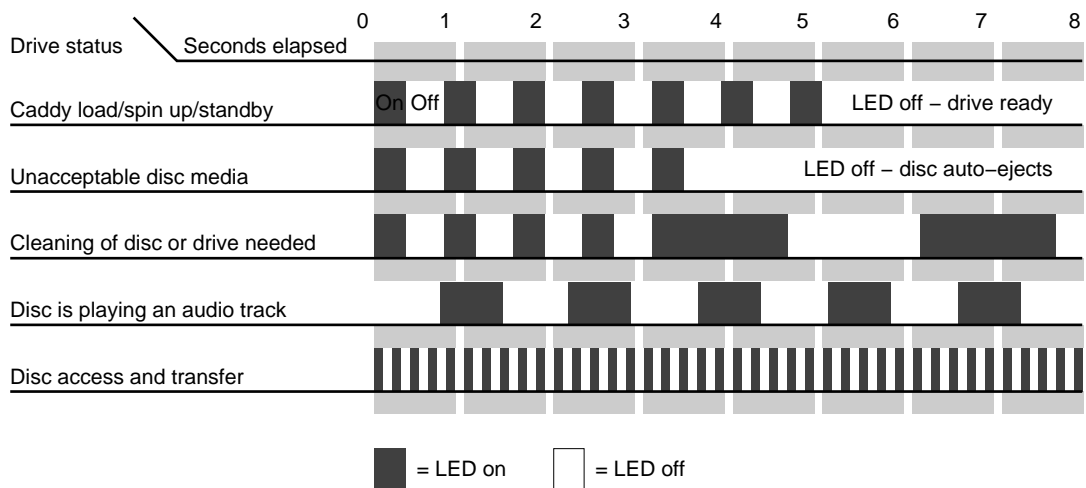

Figure B-3 CD-ROM Drive LED Status Indicators
- A *drive busy indicator LED* is located to the left of the eject button. When this LED is blinking, it indicates drive activity. The LED stays dark when no disc is loaded in the drive. See Figure B-3 for details on blink patterns and the status they indicate for the drive.